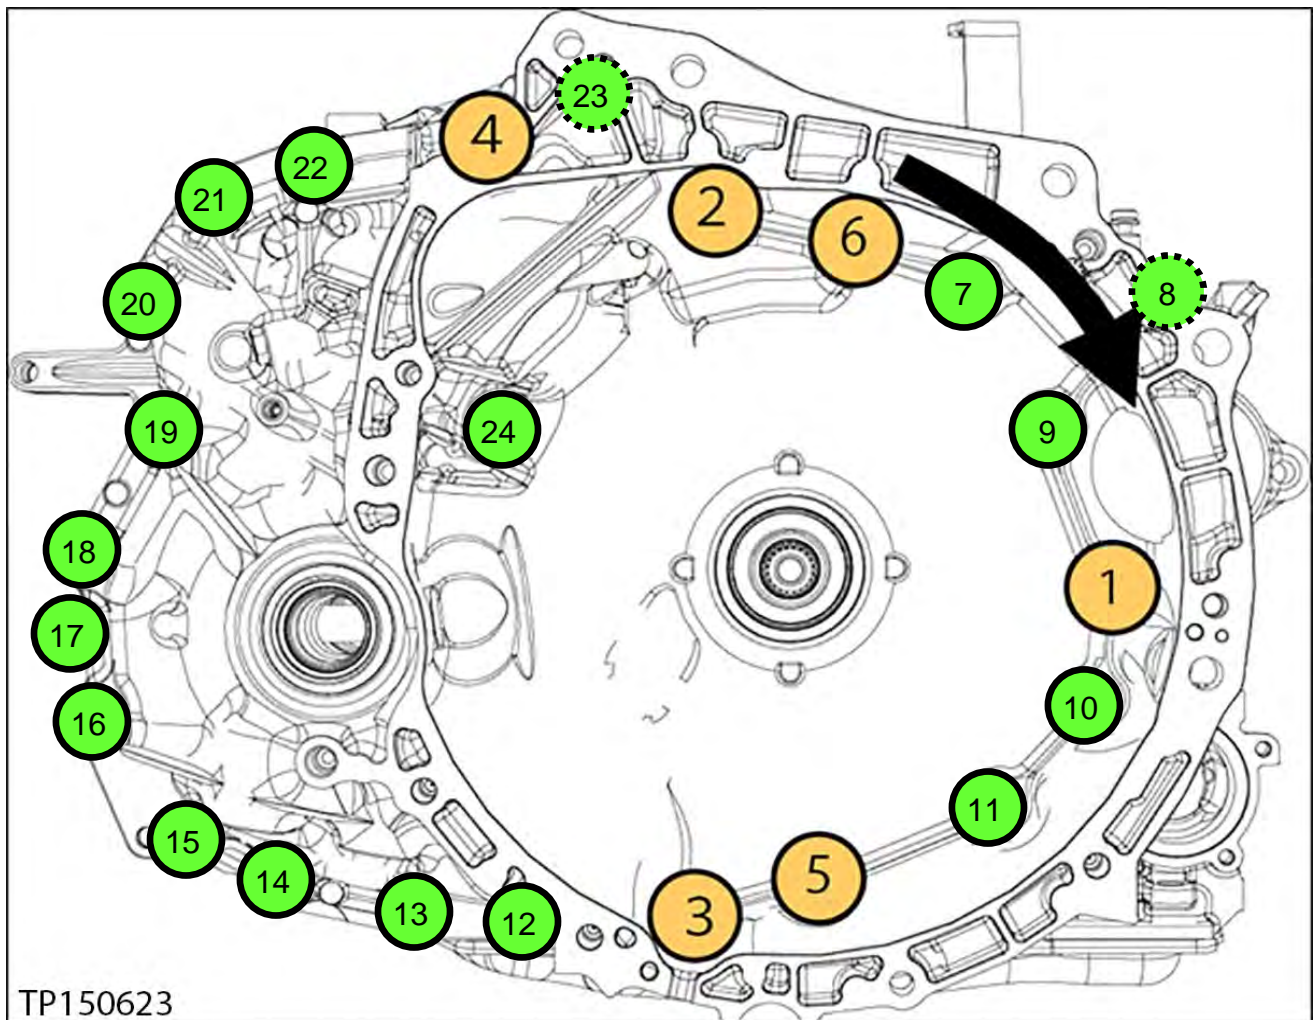

Figure 16l
15. Install the torque converter housing onto the CVT case (see Figure 16l for torque sequence):
- Install new bolts (24).
- a. Torque the first six (6) bolts with symbol  in numbered sequence (see below).
**IMPORTANT:** Make sure to torque the bolts in the sequence shown (Figure 16l).